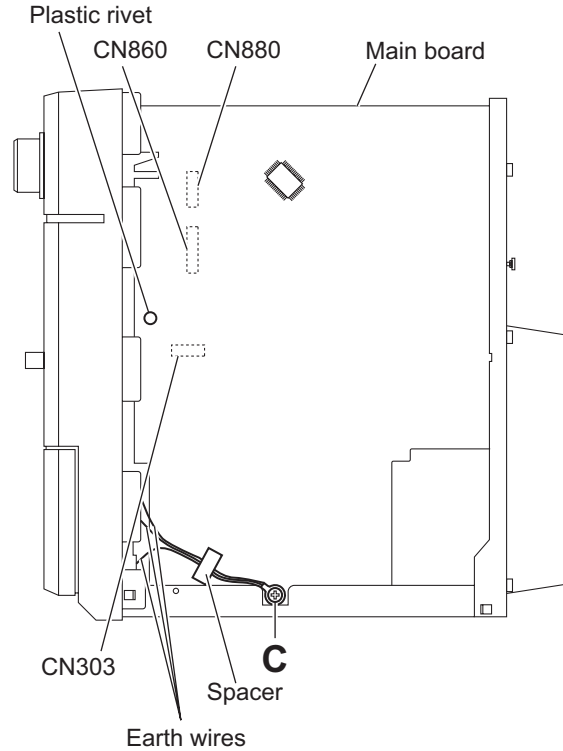

Fig.4
3.1.2 Removing the front panel assembly (See Figs.4 to 7)
- (1) From the right side of the main body, remove the screw **C** attaching the earth wires on the reverse side of the main board. (See Fig.4.)
After attaching the earth wires, fix them with a spacer as before. (See Fig.4.)
- (2) Remove the plastic rivet attaching the main board. (See Fig.4.)
- (3) From the inside of the main body, disconnect the card wires from the connectors (CN303, CN860, CN880) on the forward side of the main board. (See Fig.4.)